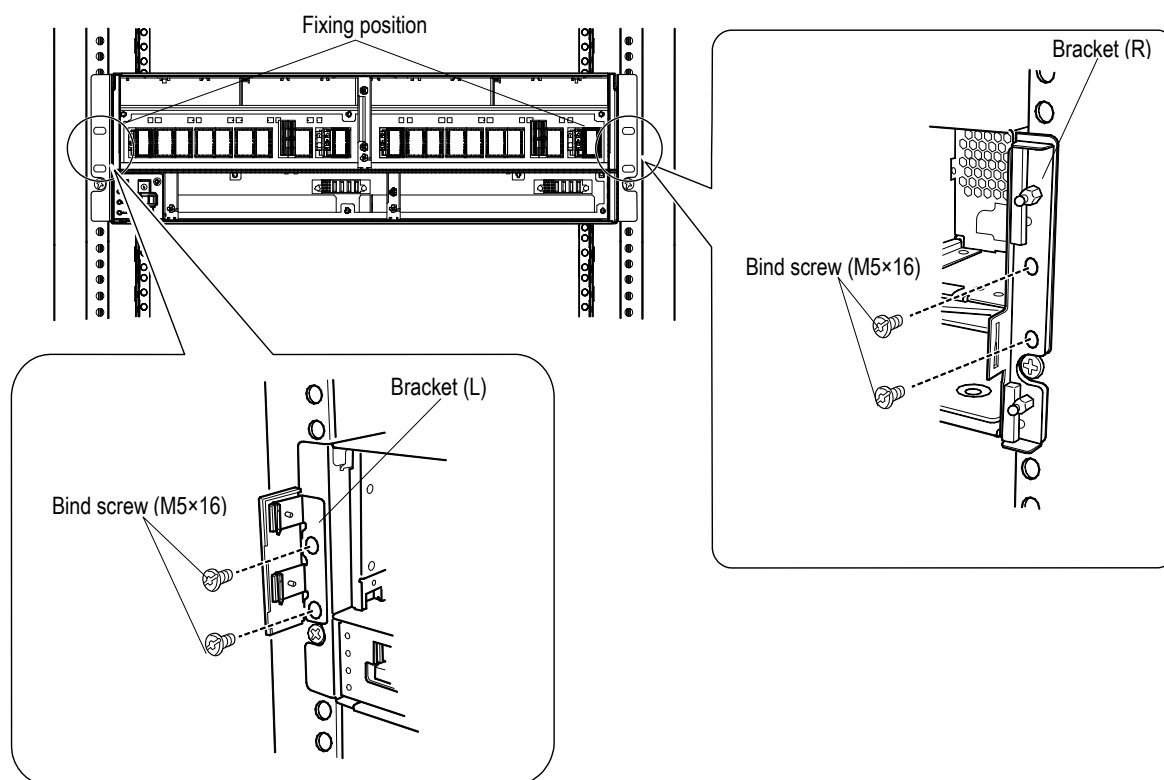

Figure 2.4.21 Fixing the Front Side of the Array (Controller Box (3U))
- Fit the positioning projection of the Bracket (L) in the positioning hole on the front of the array, and install and fix the Bracket (L) with two binding screws (M5×16) to the rack frame. (Refer to Figure 2.4.21).
- Fit the positioning projection of the Bracket (R) in the positioning hole on the front of the array, and install and fix the Bracket (R) with two binding screws (M5×16) to the rack frame. (Refer to Figure 2.4.21).